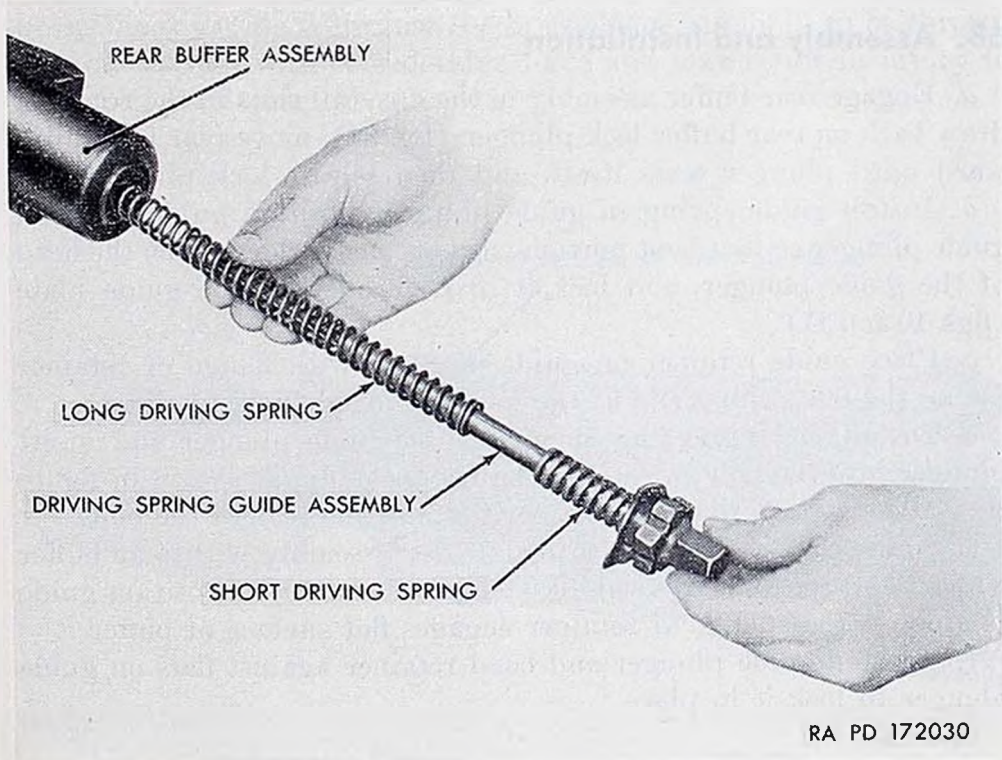

Figure 80. Removal of driving spring group.
buffer wrench 5570605 (41-W-1990-400) (figs. 44 and 79). The guide plunger is under pressure of the driving spring or springs; hence, care must be used to prevent the spring or springs from flying out while the guide plunger is being removed. Remove driving guide assembly with driving spring or springs (fig. 80). Slide driving spring or springs off guide plunger (figs. 10 and 11).
d. Install driving spring or springs on guide plunger and insert plunger into the hole in the rear buffer assembly, as shown in figure 80. Make certain that the plunger fits into the rear of the bolt.